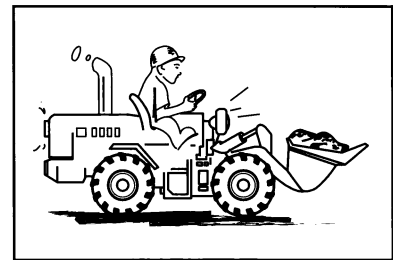

Figure1-41
- Sound the bugle to remind surrounding people getting away.(Figure 1-41)